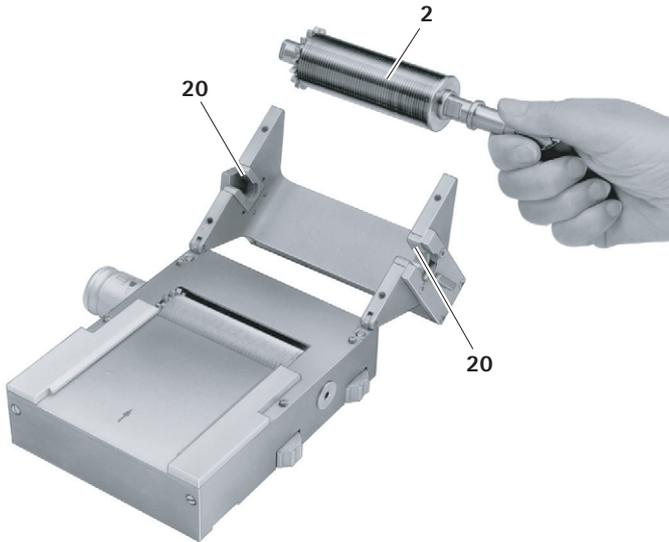

Fig. 4
- ▶ Turn cutting cylinder **2** while pulling it out of bearings **20**, see Fig. 4. This completes the dismounting of cutting cylinder **2**.
- ▶ Insert the cutting cylinder **2** into the two bearings **20**, see Fig. 4.